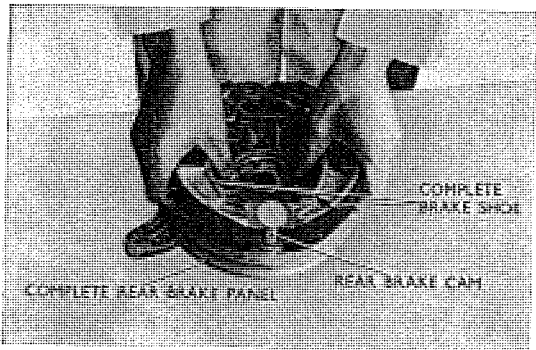

Fig. 4.85 Removing brake shoe
10. For disassembling the rear brake shoe, remove the brake arm complete from the panel, two 2.0 X 25 cotter pin, the anchor pin mounting washer, and the brake shoe complete. (Refer to Fig. 4.85)